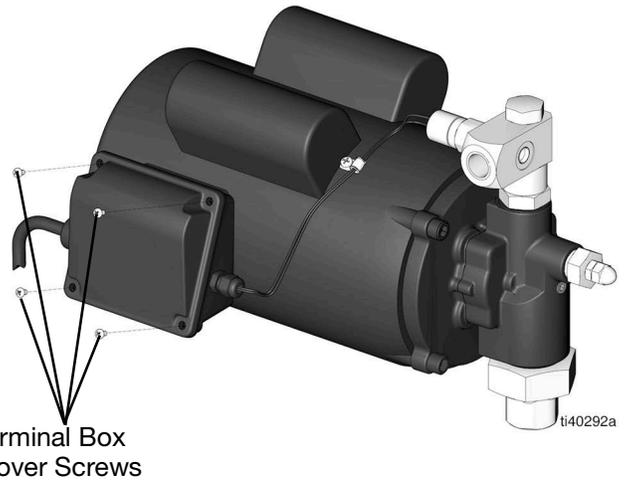

FIG. 14
9. Insert the four terminal box cover screws and tighten (FIG. 14).